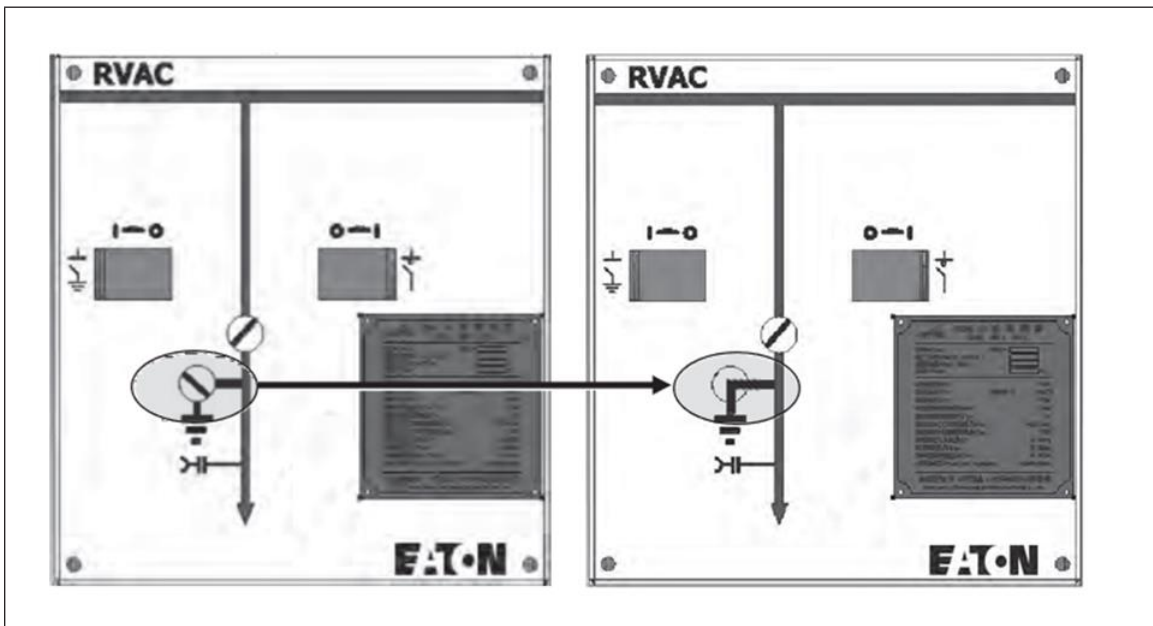

Figure 14.1 Ground switch status indication
- Operate and confirm the ground switch is in the closed state (see Figure 14.1);